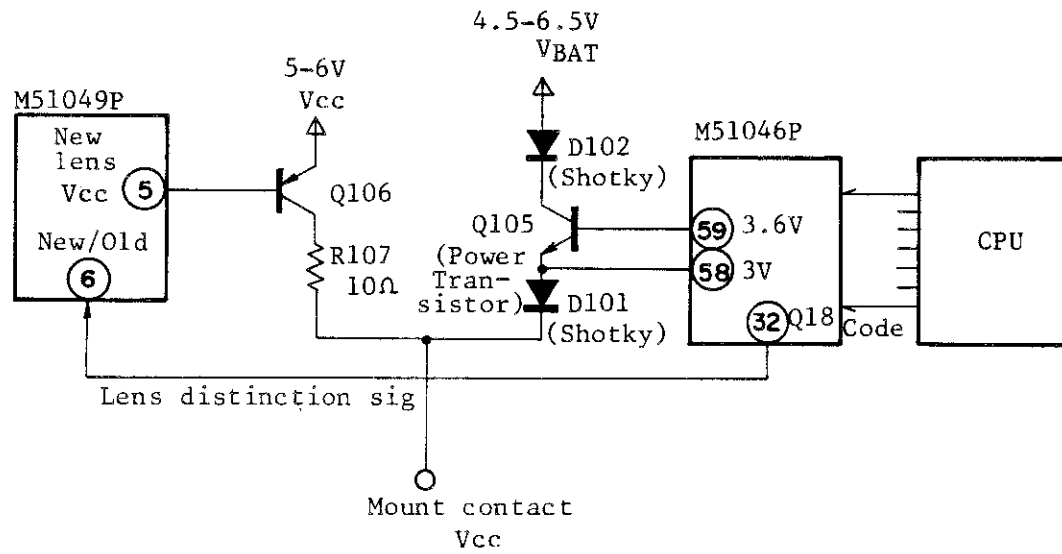

Fig.17-2
•Vcc supply circuit for new and old type AF lenses (Fig.17-2)